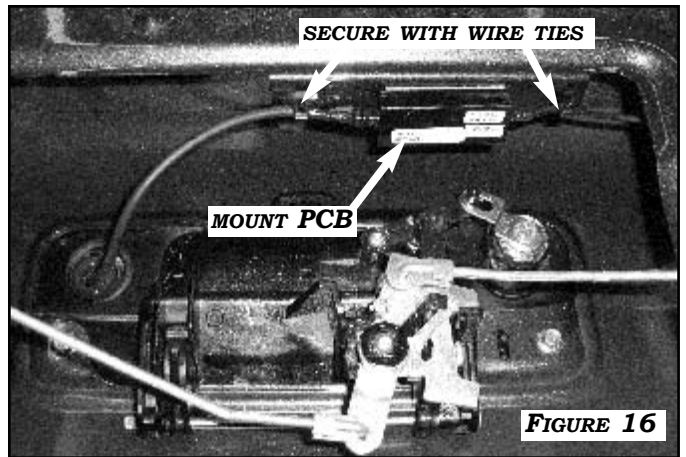
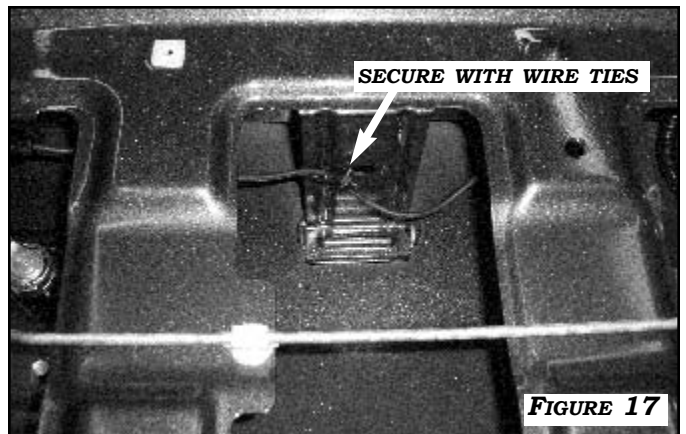
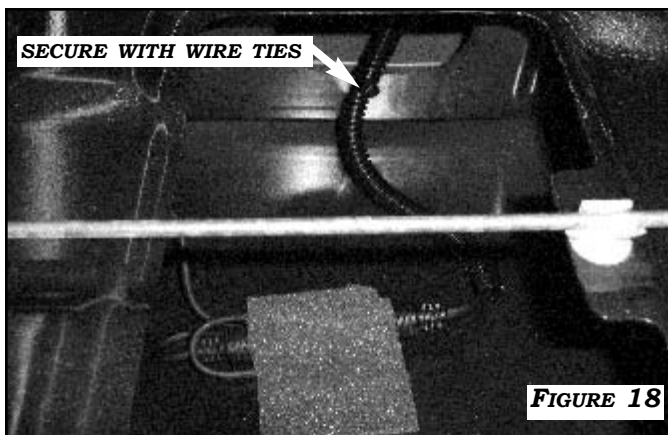

FIGURE 16
FIGURE 17
FIGURE 18
1. CLEAN THE AREA SHOWN IN **FIGURE 16** WITH ALCOHOL AND MOUNT THE CAMERA PCB TO THIS SPOT USING THE DOUBLE-SIDED TAPE. SECURE THE HARNESS WITH WIRE TIES AS SHOWN. ROUTE THE CAMERA HARNESS TO THE RIGHT OF THE TAILGATE, SECURING WITH WIRE TIES AS SHOWN IN **FIGURE 17**. **APPLY THE CONVOLUTED TUBING IN THE HARDWARE BAG TO THE TAILGATE EXTENSION HARNESS.** CONNECT THE CAMERA HARNESS TO THE TAILGATE EXTENSION HARNESS BY SCREWING THE TWO CONNECTORS TOGETHER. SECURE THE CONNECTOR TO THE TAILGATE WITH FOAM TAPE TO PREVENT RATTLES. **FIGURE 18**